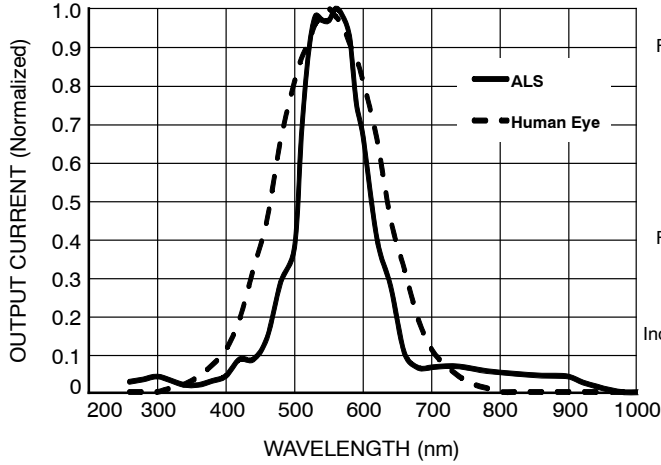

Figure 4. ALS Spectral Response (Normalized)
7. Refer to Figure 4 for more information on spectral response.
The ambient light sensor contained in the NOA3301 employs a second photo diode with its own proprietary photopic filter limiting extraneous photons, and thus performing as a band pass filter on the incident wave front. The filter only transmits photons in the visible spectrum which are primarily detected by the human eye. The photo response of this sensor is as shown in Figure 4.